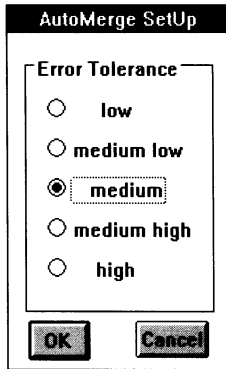

Figure 2-9. The AutoMerge Setup Dialog Box
This opens the AutoMerge Setup dialog box (Figure 2-9). In the dialog box there are five (5) options for Error Tolerance: *Low*, *Medium Low*, *Medium*, *Medium High*, and *High*.